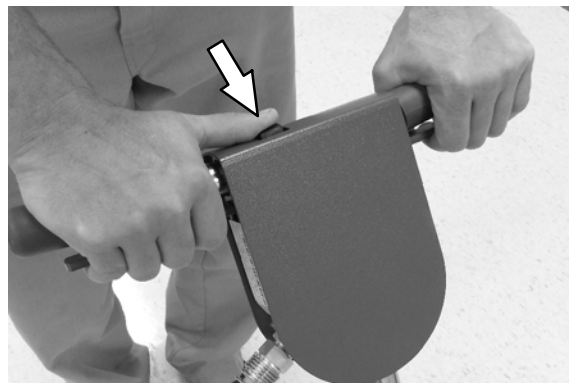

FIG. 9
2. To start machine, grasp the control handles, push the trigger lock switch forward and pull the left or right start trigger (Figure 9). Release the trigger lock switch once machine starts.